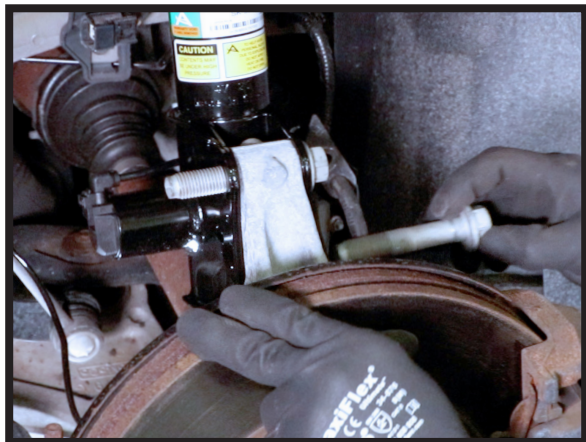

FIGURE 18
3. REINSTALL THE TWO (2) BOTTOM SHOCK MOUNT BOLTS/NUTS. TIGHTEN TO MANUFACTURER'S SPECIFICATIONS. (FIGURES 18, 19)